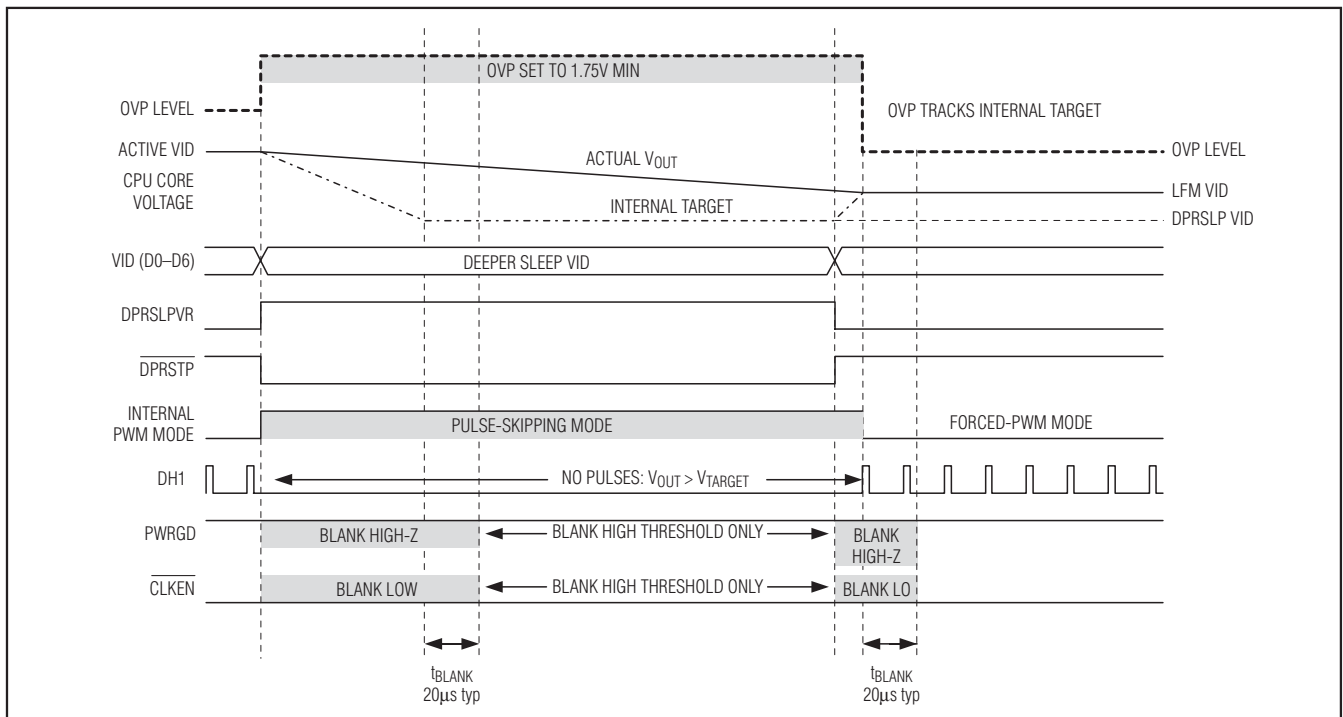

Figure 5. IMVP-6 C4E (C4 Early Exit) Transition
When DPRSLPVR goes high, the MAX8796/MAX17401 immediately enter pulse-skipping operation (see Figures 5, 6, 7). If the VIDs are set to a lower voltage setting, the output drops at a rate determined by the load and the output capacitance. The internal target still ramps as before, and the upper PWRGD threshold remains blanked high impedance until the output voltage reaches the internal target:
- Fast C4E deeper sleep exit:** When exiting deeper sleep (DPRSLPVR pulled low) while the output voltage still exceeds the deeper sleep voltage, the MAX8796/MAX17401 quickly slew (50mV/μs min regardless of R_{TIME} setting) the internal target voltage to the DAC code provided by the processor as long as the output voltage is above the new target. The controller remains in skip mode until the output voltage equals the internal target (until the first on-time is triggered by the error amplifier). Once the internal target reaches the output voltage, switching begins and the controller is allowed to enter forced-PWM mode. The controller blanks PWRGD and CLKEN (forced high impedance) until 20μs after the transition is completed. See Figure 5.